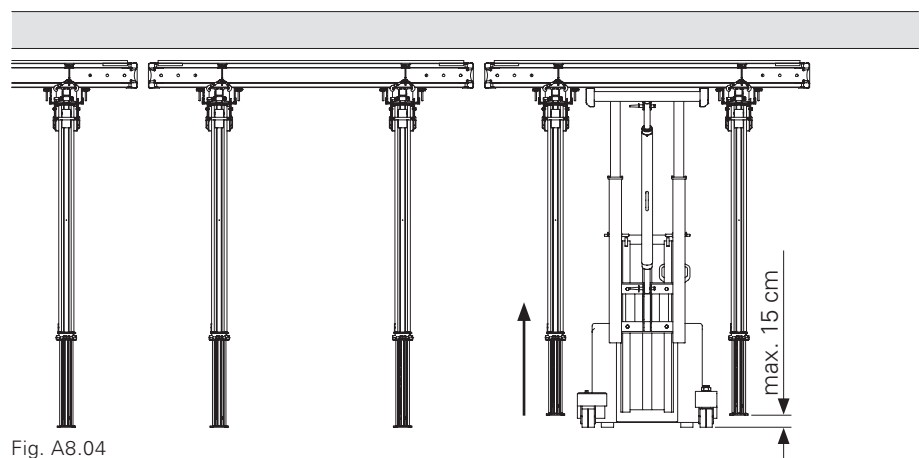

Fig. A8.04
5. Insert MULTIPROP MP by max. 15 cm. (Fig. A8.04)